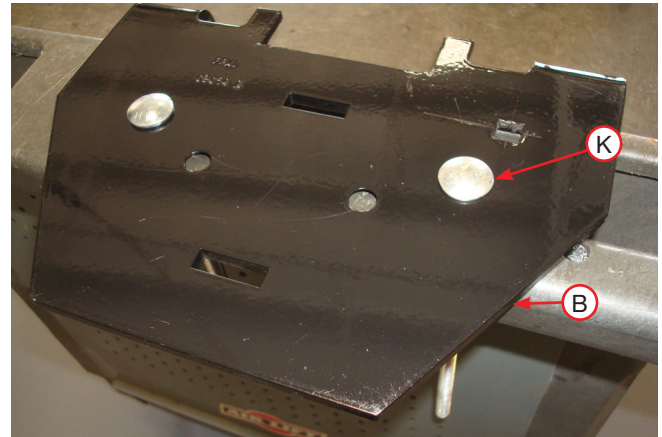

Fig. 16
4. Insert two 3/8"-16 x 10" carriage bolts (K) through the square holes in the lower bracket main plate (B) (Fig. 16).